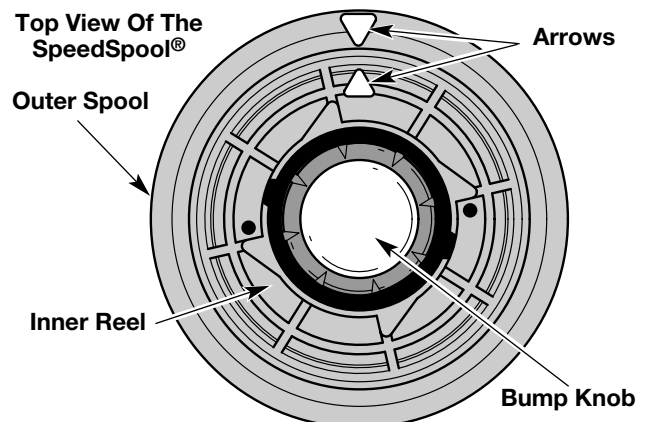

Fig. 13
2. Hold the outer spool and turn the inner reel counterclockwise to line up the arrows on the outer spool and inner reel (Fig. 13).